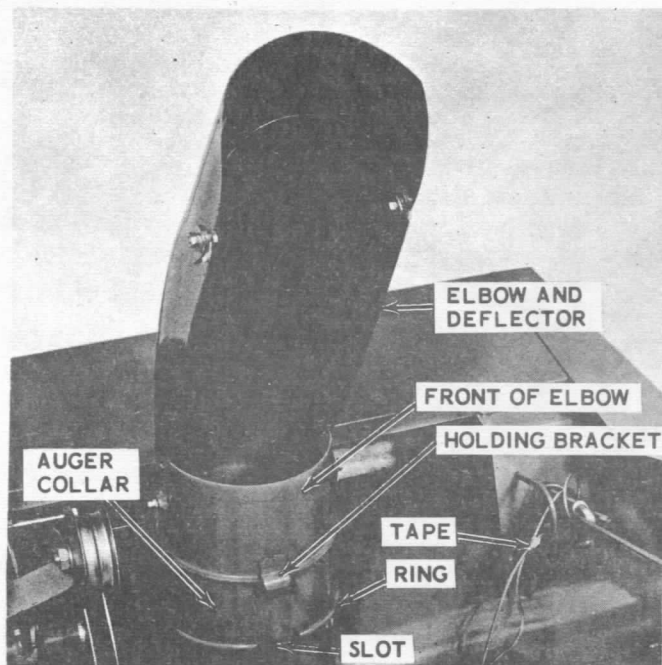

Figure 15
9. Position front of elbow toward rear of auger housing and slip elbow over auger collar. See Figure 15. Holding bracket must go through slot in ring. Rotate elbow 180° (front facing forward), make certain holding bracket slips over ring.